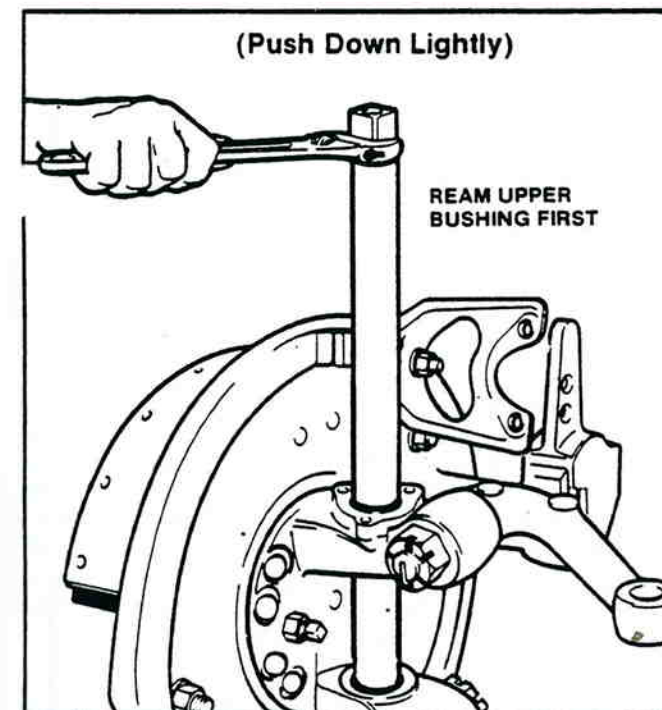

Figure 1-17. Size Upper Bushing.
2. Gently slide the reamer pilot through the upper bushing until the reamer cutters begin to engage the upper bushing. See figure 1-17.